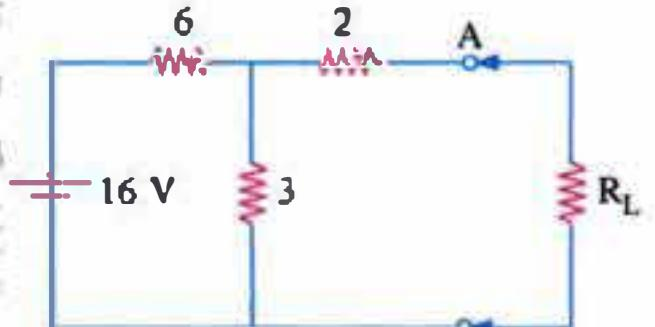

Fig. 4.28
7. According to Maximum Power Transfer Theorem, what should be the value of load resistance  $R_L$  to abstract maximum power from the  $16\text{ V}$  battery shown in Fig. 4.28? What is the value of this power? [4 $\Omega$ ,  $16\text{ W}$ ]